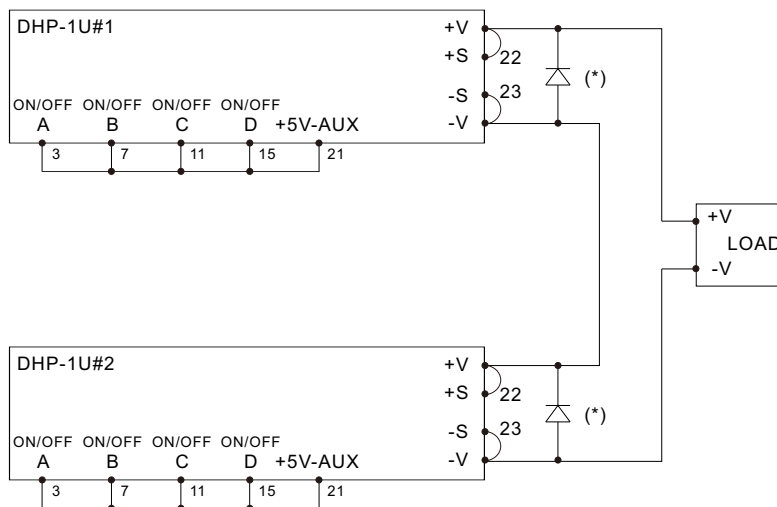

Figure 3-9 Configuration of rack shelf units in series
- ⊙ The rack shelves (DHP-1U□) connected in series should have the identical units. Please refer to Figure3-9 for wiring configuration.
- ⊙ It is suggested that add external diodes (*) on the output, shown in Figure 3-9, to prevent reverse voltage. Rating of these diodes should be higher than the total amount of output voltage and current.